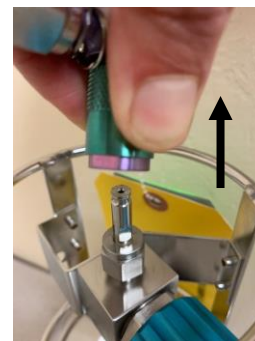

Figure 2. Female QC installation
- 3) To install the flow controller on the canister, pull back on the sleeve of the female QC fitting (Fig 2.)